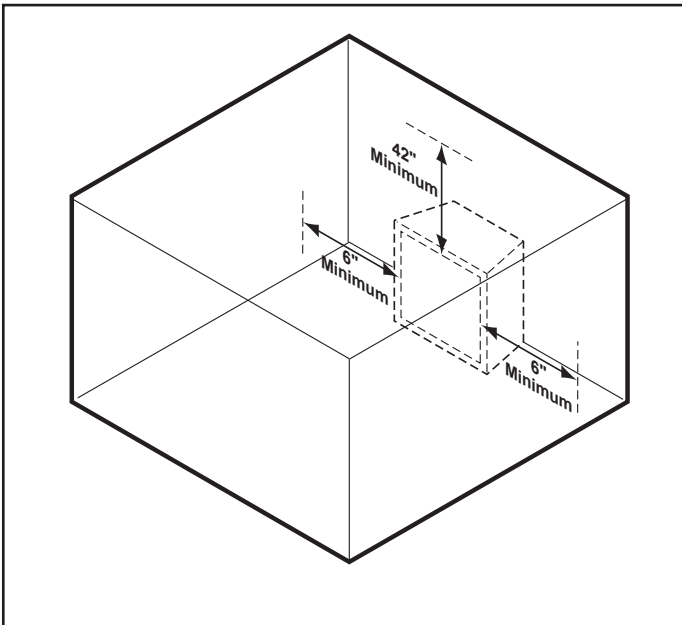

Figure 6.1 Clearance and Height Requirements
Ensure that minimum clearances shown in Figures 6.1 through 6.3 are maintained. Left and right clearances are determined when facing the front of the firebox.
- Sidewall clearances:** The clearance from the inside of the appliance to any combustible wall should not be less than 6". See Figure 6.1.
- Ceiling clearance:** The ceiling must be at least 42" from the top of the firebox opening. See Figure 6.1.